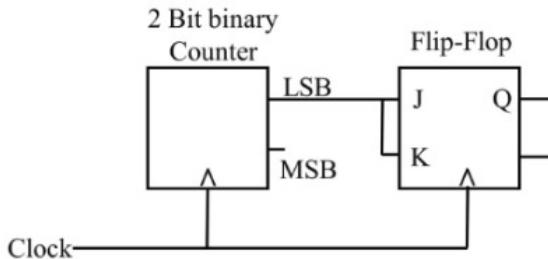

Fig. 5.12: Circuit
12. For the circuit shown in Fig. 5.12, the clock frequency is f_0 and the duty cycle is 25%. For the signal at the Q output of the Flip-Flop, (GATE EC 2022)